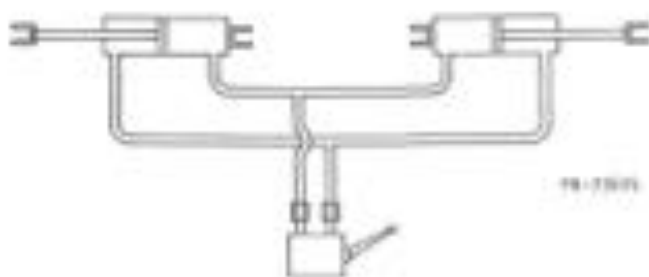

Fig. 5 Two Cylinder Wing Lift Circuit
Fig. 5 shows a simple two (2) cylinder circuit used to fold a pair of wings. This system is used on W8-Rich cultivators with a single pair of folding wings.